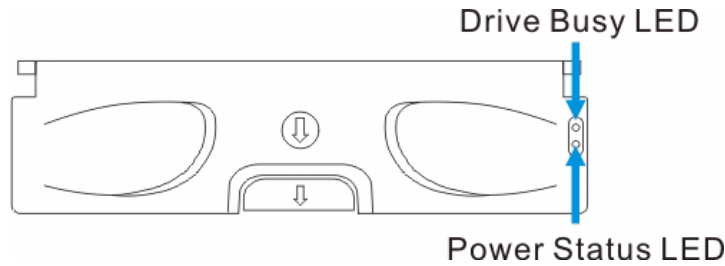

Fig. 4.2 Drive Tray LEDs
Two (2) LED indicators are located on the right side of each drive tray, See *Figure 4.2*. Refer to *Table 4.3* for the LED definitions. When notified by a drive failure message, you should check the drive tray indicators to find the correct location of the failed drive. Replacing the wrong drive can fatally fail a logical array.